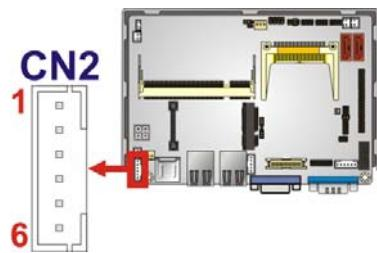

Figure 3-9: LED and +5 V Power Output Connector Location
**CN Location:** See Figure 3-9